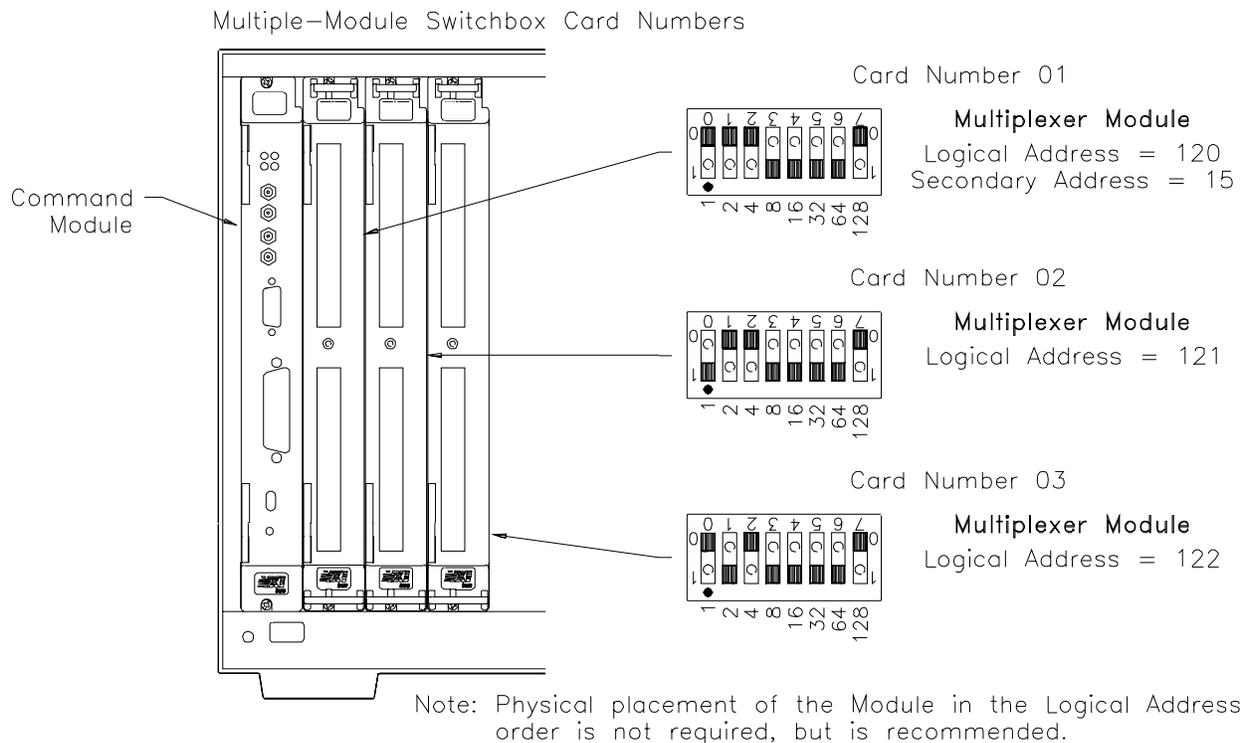

Figure 1-4. Card Numbers in a Multiple-Module Switchbox
- **Multiple-Module Switchbox.** In a multiple-module switchbox configuration, multiplexer modules are set to successive logical addresses. The multiplexer module with the lowest logical address is always card number 01. The card number with the next successive logical address is 02, and so on. Figure 1-4 illustrates the card numbers and logical addresses of a typical multiple-module switchbox configuration. In Chapter 2, an example of addressing a switchbox configuration is shown in the "Using Multiple Mainframes" section.